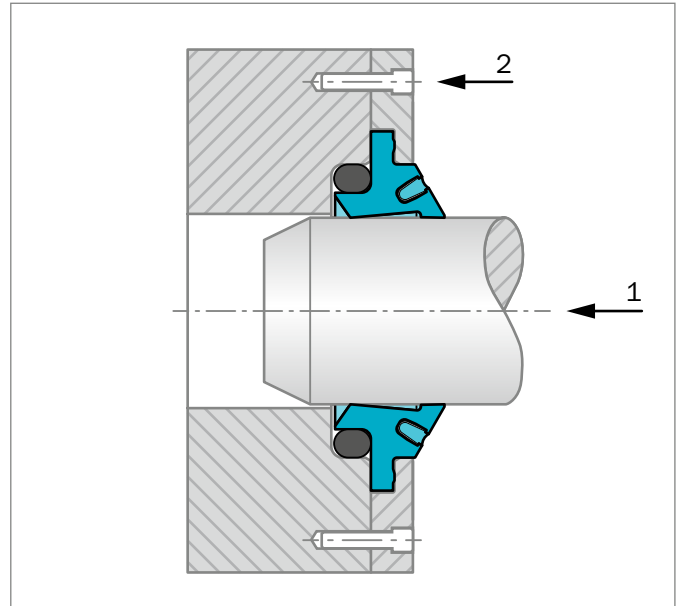

Figure 176: Installation and calibration of the Turcon® Excluder® S by the rod or a calibration mandrel
- Insert the rod - check whether rod has the recommended lead-in chamfer; if not, use a calibration mandrel - see Figure 176 **point 1**
- Tighten the cover - see Figure 176 **point 2**